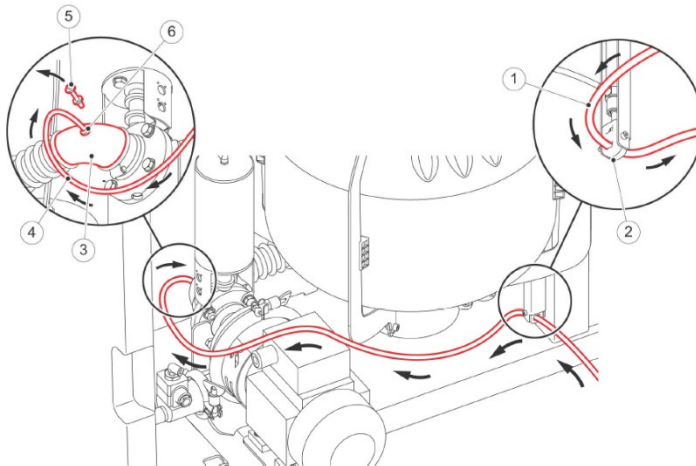

Figure 28. For the Astronaut A3 Next milking robot
- To connect the milk tube to an Astronaut A3 Next milking robot, pass the milk tube through hole 2, remove stop nipple 5, put nipple 6 and connect the milk tube to nipple 6, see the figure 28